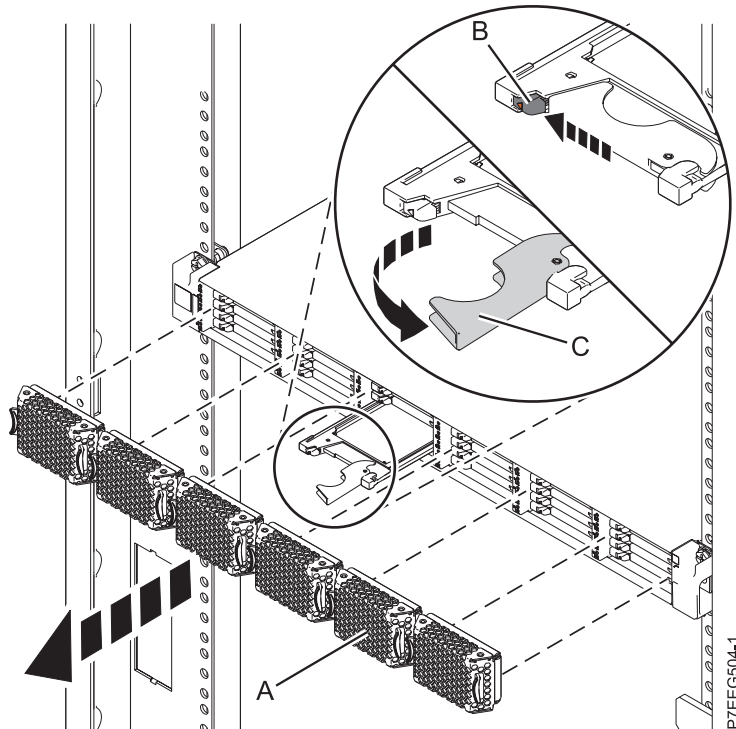

Figure 41. Removing the solid-state drive from the EDR1 PCIe storage enclosure
1. Pull off the bezel (A) that covers the slot that contains the solid-state drive. See Figure 41 on page 61.
2. Slide the release latch (B) over gently to unlock the drive handle.
3. Grasp the handle (C) and pull the drive partially out of the slot.